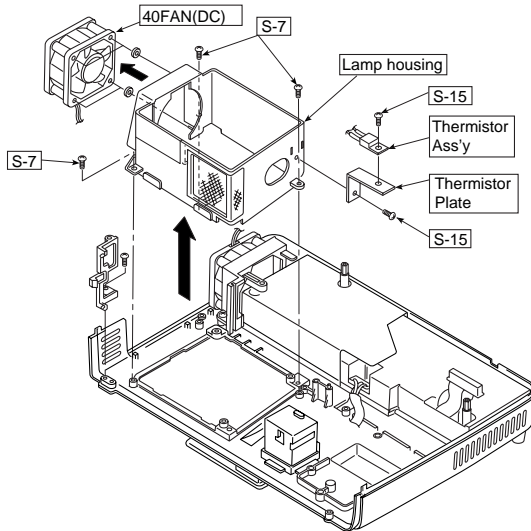

Fig. 15
14) Lamp housing (See Fig. 15.)
Remove the three screws (S-7) shown in Fig. 15, and detach the lamp housing from the bottom cover. Remove the screws (S-15) shown in Fig. 15, and detach the thermistor and thermistor plate. Remove the screw (S-7) shown in Fig. 15, and detach the ballast lock base.